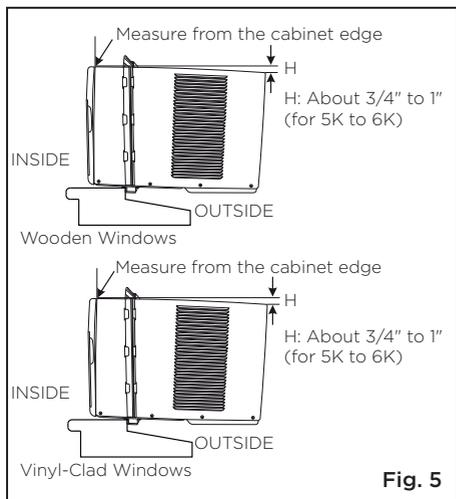

Fig. 5
2. While keeping a firm grip on the air conditioner, carefully place the unit into the window opening so the bottom of the air conditioner frame is against the window sill (Fig. 5). Carefully close the window behind the top rail of the unit.
Check that air conditioner is tilted back per dimension H (Fig. 5) (tilted about 3° to 4° downward to the outside). After proper installation, condensate should not drain from the overflow drain hole during normal use. Adjust the slope if otherwise.